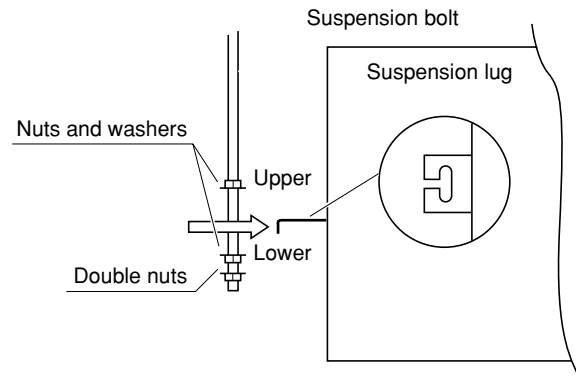
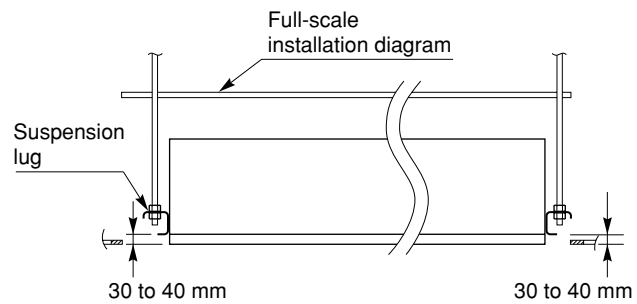

Fig. 3-7
Fig. 3-8
The distance between the bottom of the suspension bolts and the bottom surface of the ceiling should be 30 to 100 mm. (Fig. 3-8)
- (2) Thread the 3 hexagonal nuts and 2 washers (field supply) onto each of the the 4 suspension bolts as shown in Fig. 3-7. Use 1 nut and 1 washer for the upper side, and 2 nuts and 1 washer for the lower side, so that the unit will not fall off the suspension lugs.
- (3) The indoor unit should be suspended from the suspension bolts (Fig. 3-7) so that the distance between the bottom of the suspension lug and the bottom surface of the ceiling is 30 to 40 mm. (Fig. 3-8)